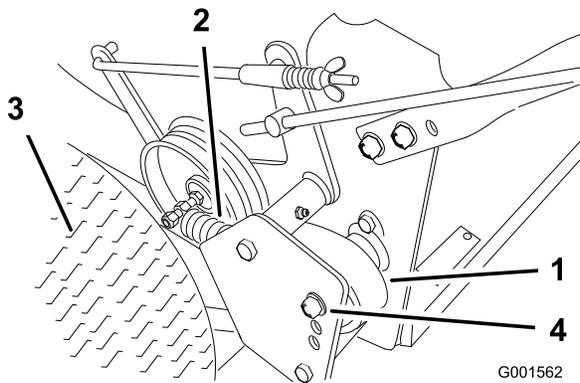

Figure 37
1. Remove hairpin cotter securing brake rod to brake arm to relax belt idler tension (Figure 37).
2. Remove bottom and loosen top bolts of shield to rotate for belt clearance (Figure 37).
3. Lift the belt past idler and off the drive pulley (Figure 37).
6. Secure shield with previously removed bolt and tighten bolts (Figure 37).
7. Secure brake rod to brake arm with hairpin cotter (Figure 37).